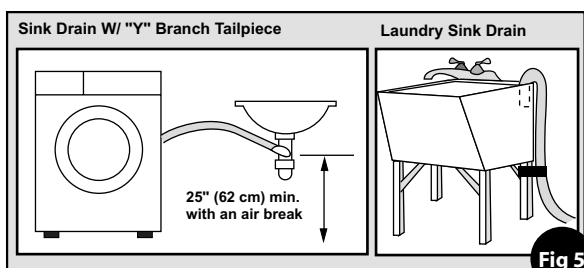

Fig 5
**Sink Drainpipe System** - Entry into the sink drain system must be above the trap (Fig. 5). When routing the drain hose through cabinets or walls, use a protective material such as electrical or duct tape to cover sharp edges that could damage the drain hose. Use a suitable clamp to secure the drain hose to the "Y" branch or the disposer (Fig. 7). With a sink drainpipe system, you may connect directly: 1) to a disposer by following the manufacturers attachment